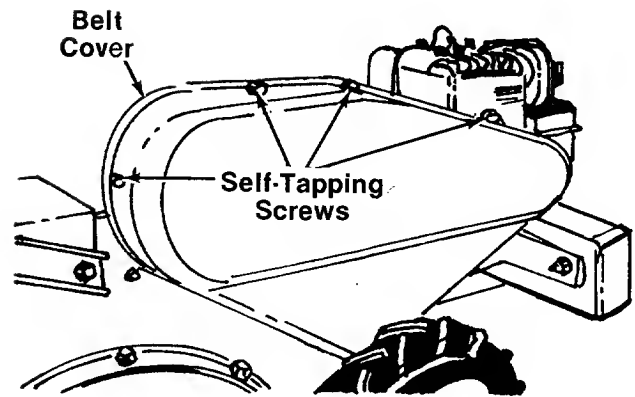

FIGURE 22.
1. Remove belt cover by removing the four self-tapping screws. See figure 22.